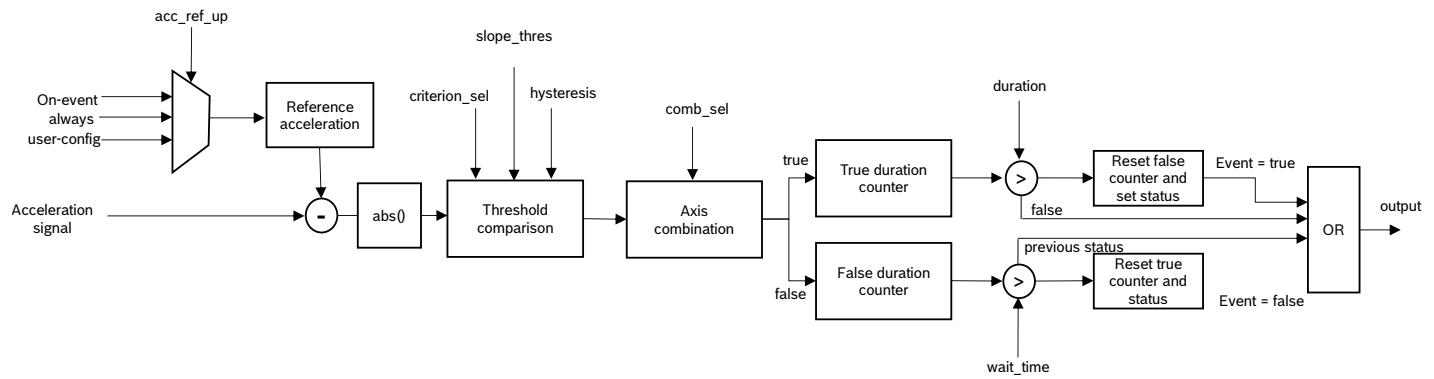

Figure 24: Functional behavior of generic interrupt
The functional behavior of the generic interrupt is presented in Figure 24. Generally, the change in the acceleration signal with respect to a defined reference value is monitored by the feature. Then, this change in the acceleration signal is compared against a configurable threshold value. Additionally, to avoid unwanted rapid interrupts, a hysteresis value can also be configured. Finally, to trigger the generic interrupt, the acceleration change must be either greater or lower than the configured threshold for a configured duration. The interrupt can be again cleared, when the condition remains false for a configured wait time.
9. `GENERIC_INTERRUPT1_4.quiet_time` configures the quiet time behavior of the generic interrupt, which is not depicted in figure 24. It defines the minimum quiet time between two consecutive interrupt detection. This means that, after